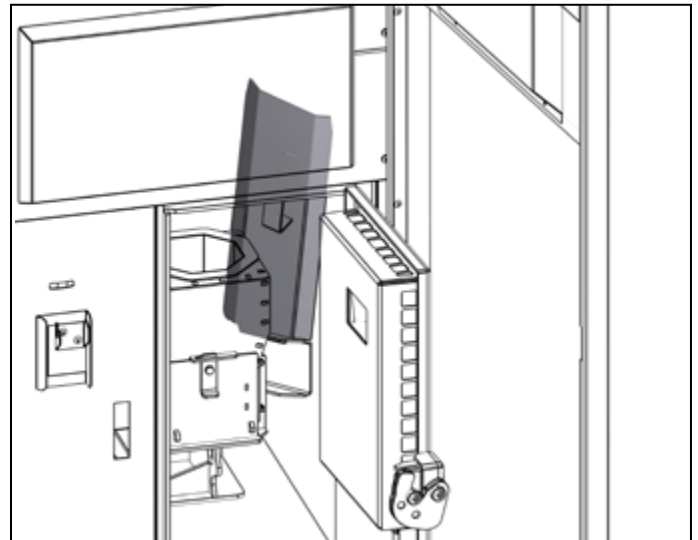

Figure 12-10: Vertical combustion chamber baffle
- Remove both the horizontal and vertical baffles from the rear of the combustion chamber and inspect them. Refer to Figures 12-10 and 12-11.